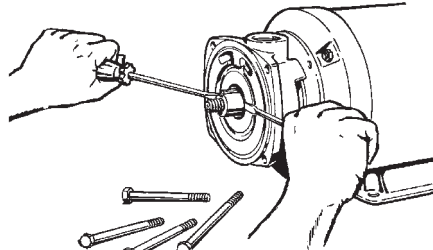

Figure 4-9
- f. Holding the screwdrivers at approximately 3 o'clock and 9 o'clock, push the handles in toward the motor body, using the motor bracket for leverage. Refer to Figure 4-9. This procedure usually does not require excessive force. Care should